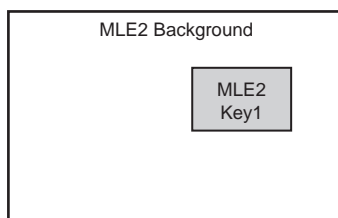

Figure 4.9 MLE 2
2. Set up **MLE 2** with a key (**Figure 4.9**).